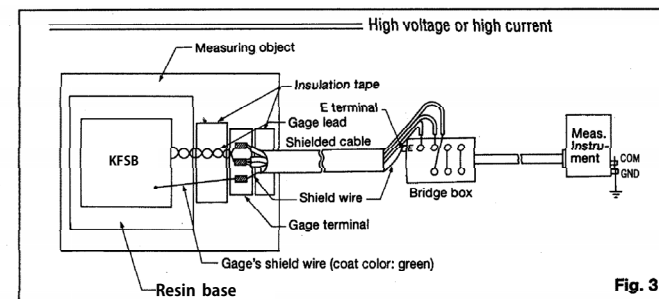

Fig. 3
- ☞ Connect the GND terminal of the measuring instrument to the ground. (Fig.3)